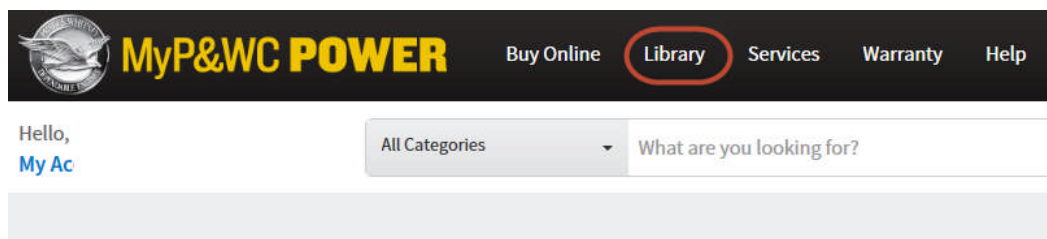

Figure 3: MyP&WC POWER Library
- 2) Navigate and select “Library” as shown in Figure 3.